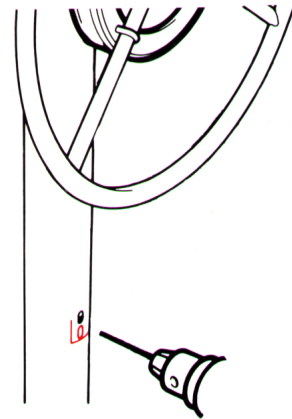
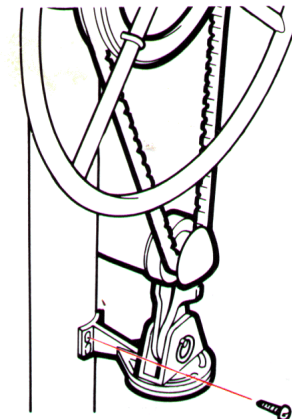

Fig.14
Fig.15
- Finally drill four 4.3mm (11/64") holes for the clevis fixing screws at the **lower** end of each elongated hole position. This allows the belt to be subsequently tightened (Fig.14). The mounting clevis may now be screwed into position with the self tapping screws positioned **mid-way** in the elongated holes (Fig.15). This will ensure that the belt is taut when it is tensioned by rotating the clutch lever fully clockwise. Re-assemble the complete drive system and check the operation of the clutch. The clutch lever may be repositioned on the splined eccentric bush if necessary to ensure that the lever can rotate 180° without obstruction.